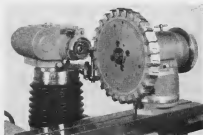

Figure 62B
16. Swivel the attachment so the centerline of the attachment spindle is perpendicular to the centerline of grinding wheel spindle (Figure 62B)